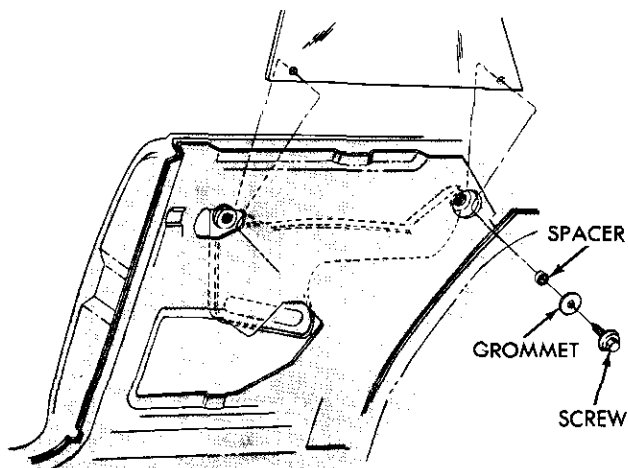

Fig. 56—Quarter Window Replacement—Hardtop
(1) Remove retainers attaching regulator arm studs to glass lower frame (Fig. 56).
(2) Support window and remove regulator studs from lower frame.
(3) Remove rollers from slots in glass lower frame.
(4) Remove glass from quarter panel.
(5) Inspect front and rear roller tracks for damage or excessive wear.